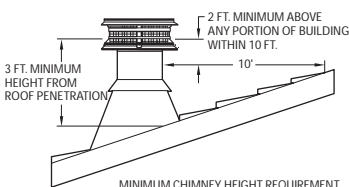

Figure 1
- Determine the minimum chimney height above the roof line. Building codes require a minimum of 3' above the roof penetration and at least 2' higher than any portion of a building within 10'. See figure 1. The termination cap is installed above that point. If chimney is more than 4' above the roof penetration an Extended Roof Bracket is required.